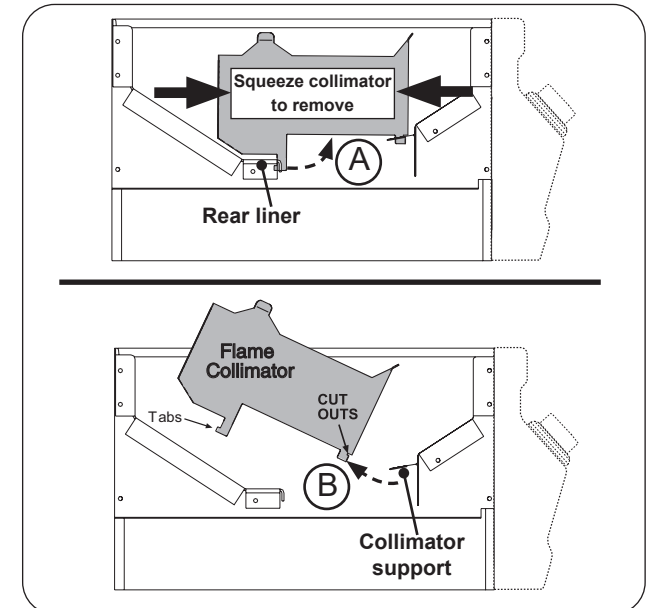

Fig. 34-2 Flame collimator removal
2. Lift up the interior protection plate from the left side, then lift up from the right side (see Fig. 34-2, A and B).
3. While lifting the plate upward, flex the collimator inward to completely free the protection plate (see Fig. 34-2, C).